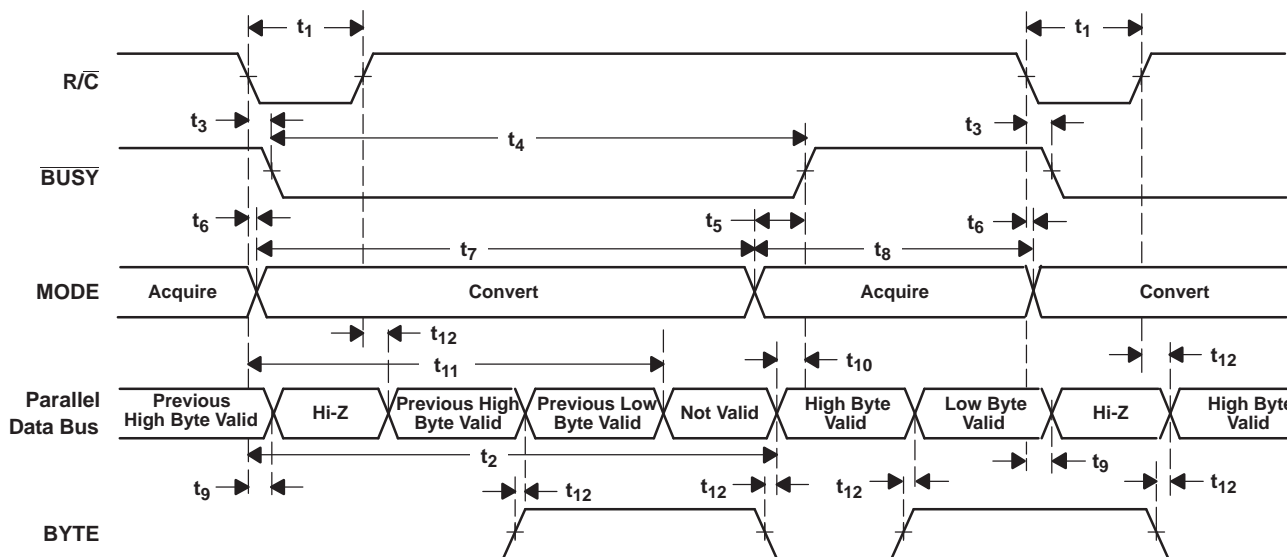
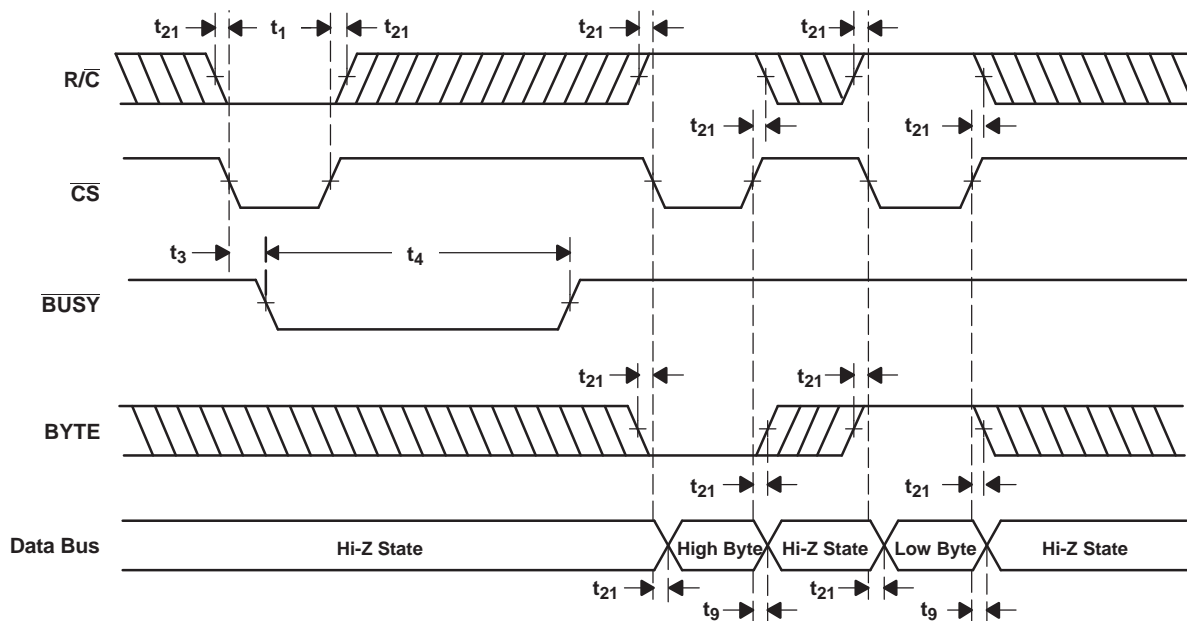

Figure 33. Conversion Timing With Parallel Output ($\overline{\text{CS}}$ and DATACLK Tied Low, $\overline{\text{EXT/INT}}$ Tied High)
Figure 34. \overline{CS} to Control Conversion and Read Timing With Parallel Outputs
The ADS8507 begins tracking the input signal at the end of the conversion. Allowing 25 μ s between convert commands assures accurate acquisition of a new signal. Refer to Table 2 and Table 3 for a summary of \overline{CS} , R/\overline{C} , and \overline{BUSY} states, and Figure 33, Figure 34, Figure 35, Figure 36, Figure 37, Figure 38, and Figure 39 for timing diagrams.
(1) See Figure 33 and Figure 34 for constraints on data valid from conversion *N*–1.
After conversion N is completed and the output registers have been updated, $\overline{\text{BUSY}}$ (pin 24) goes high. Valid data from conversion N is available on D7-D0 (pin 9-13 and 15-17). $\overline{\text{BUSY}}$ going high can be used to latch the data. Refer to Table 5 and Figure 33 and Figure 34 for timing specifications.
After conversion N has been initiated, valid data from conversion $N-1$ can be read and is valid up to $12\ \mu\text{s}$ after the start of conversion N . Do not attempt to read data beyond $12\ \mu\text{s}$ after the start of conversion N until \overline{BUSY} (pin 24) goes high; this may result in reading invalid data. Refer to Table 5 and Figure 33 and Figure 34 for timing constraints.